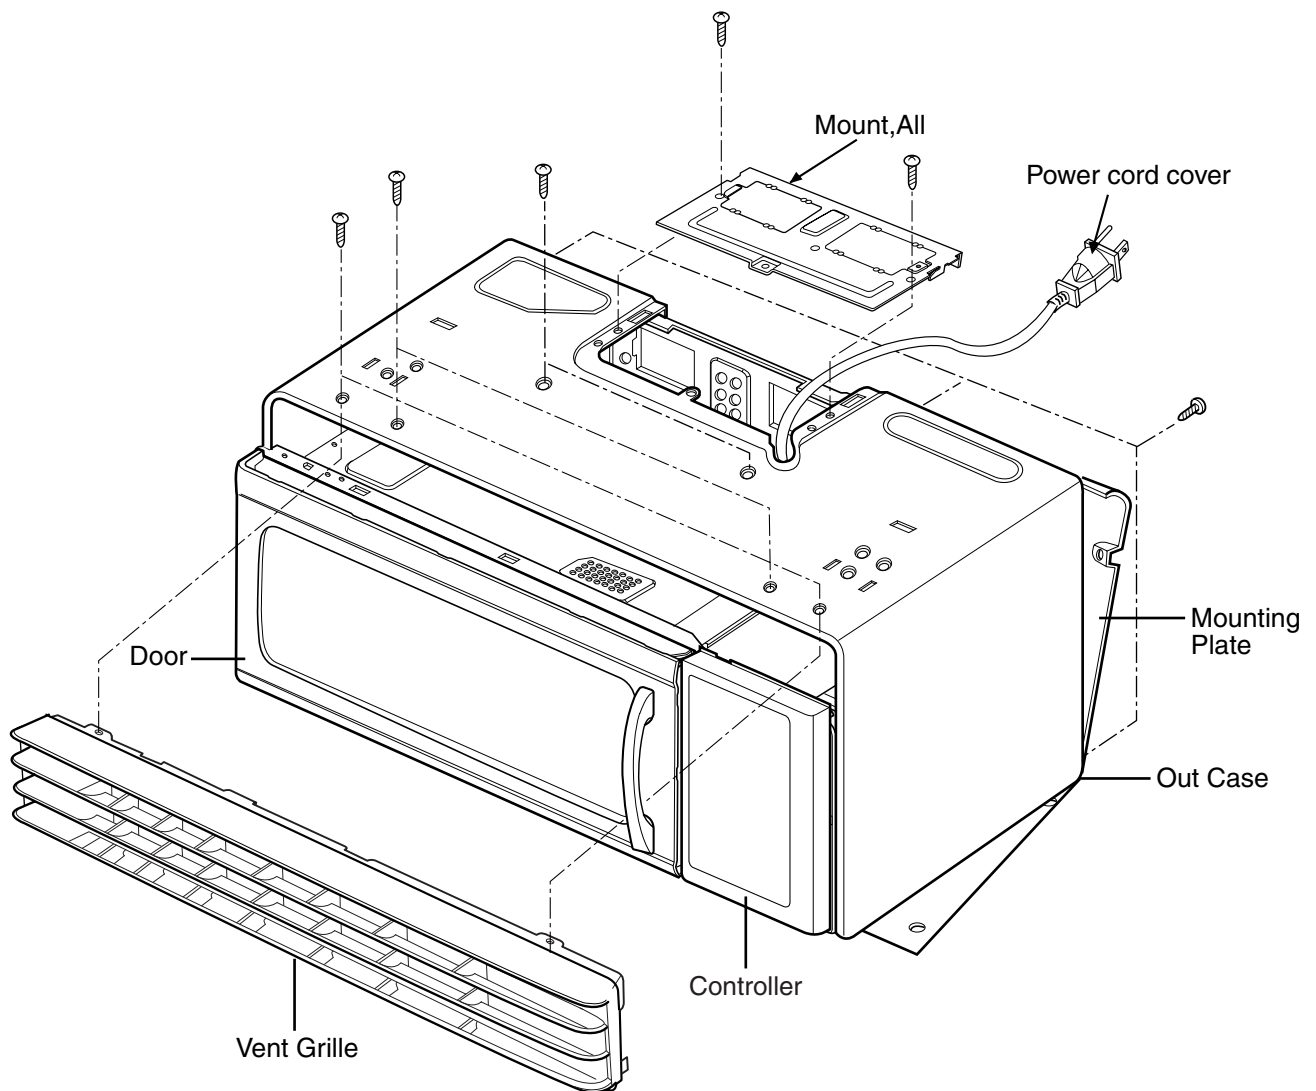

Figure 8
B. REMOVING THE OUTSIDE CASE (Figure 8)
- (1) Remove the vent grille by removing two screws securing it to the out case.
- (2) Remove two screws securing it to the air duct.
- (3) Remove the mounting plate by turning the screws (1 or 2 screws) securing it to the out case.
- (4) Remove two screws on the left central edge and one screw on the right central edge of Base plate. Remove the Mount, All from the out case by removing one screw securing it to the out case.
- (5) Remove six screws of the rear cavity.
- (6) Remove the outcase.